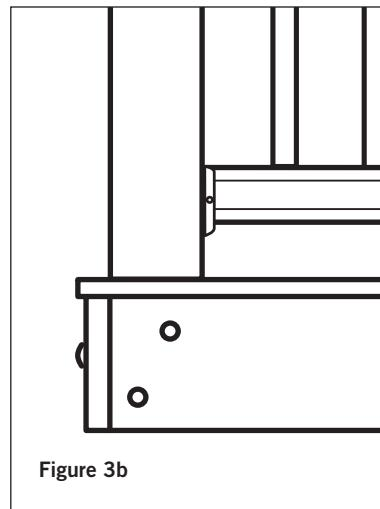

Figure 3b
**Step 3** Position, plumb with a level, and clamp the rail post on the interior face of the joist. Plumb again. The 4x4 railing post should be bolted to the inside of the joists using two 1/2"x6" galvanized carriage bolts. Corner posts use a third carriage bolt inserted through the adjacent joist (**Figure 3b**).
**Step 2** Position, plumb with a level, and clamp the rail post on the interior face of the stair stringer. Plumb again. The 4x4 railing post should be bolted to the inside of the stair stringer using two 1 1/2" x 6" galvanized carriage bolts. Corner posts use a third carriage bolt inserted through the adjacent joist (**refer to Figure 3b**). Ground level posts should be set in concrete.